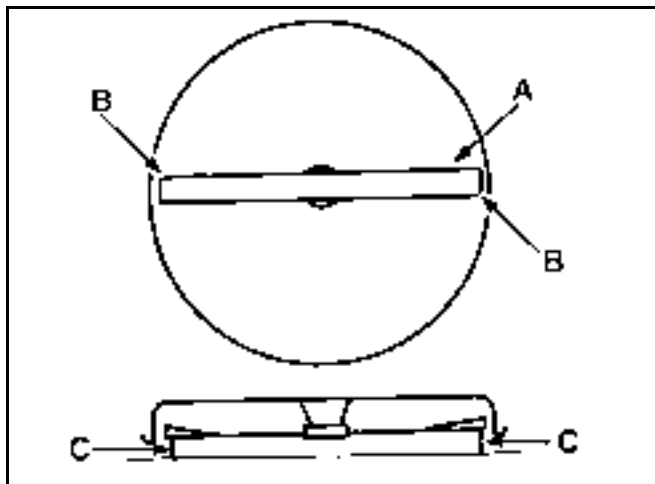

Figure 206
4. Carefully rotate the blade(s) side to side (Figure 206). Measure between the outside cutting edges and the flat surface (Figure 206). If both measurements are not within 3/16 in. (5mm), an adjustment is required; refer to steps 5 and 6.